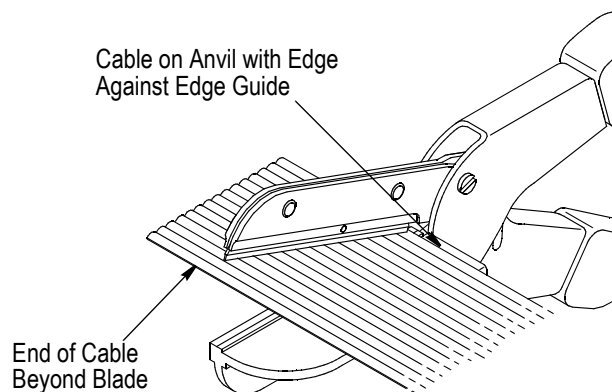

Figure 2
2. Position the cable on the anvil with one edge of the cable against the edge guide. See Figure 2.
3. Holding the cable in place, slide the cable under the blade. Make sure that the end of the cable is at least 1.59 mm [.062 in.] beyond the blade. See Figure 2.